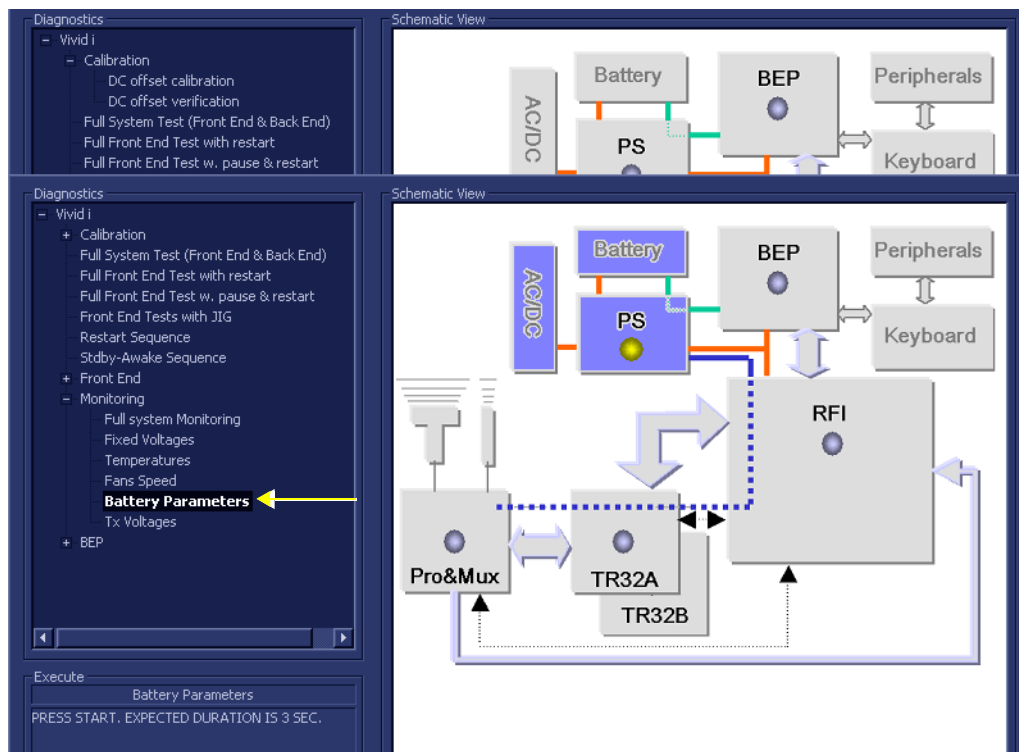

Figure 7-70 Battery Parameters Test
- 1.) In the *Diagnostic Test* window, trackball to **Battery Parameters** in the list of *Monitoring* tests available for selection from the Diagnostic Test Tree (see Figure 7-70 below) and press **Set**. The Battery Parameters Test name is displayed under *Execute*; the relevant system components to be tested are highlighted light blue in the Schematic View (AC/DC, Battery, PS), as shown below: